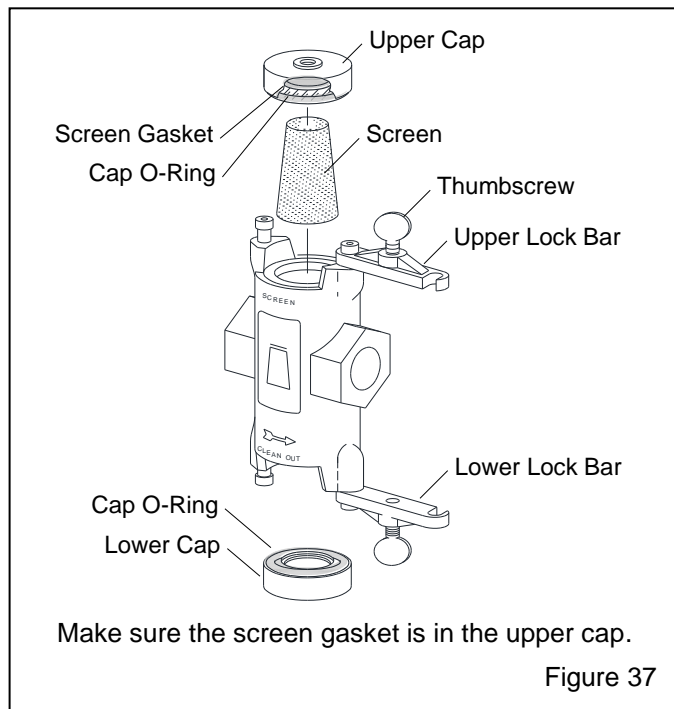

Figure 37
7.5 Abrasive Trap – Figure 37
7.5.5 Install the screen in the top section. The smallest diameter end of the screen must face up, as shown in Figure 37.